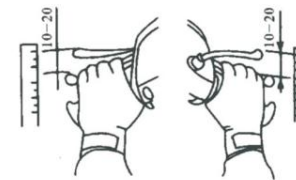

Figure 3-1
1.3 Checking the front and rear brakes: When the brake lever is pressed, from the moment you start to squeeze it until you feel resistance (i.e. the brake starts to act), the lever travel should be between 1 mm and 20 mm (maximum 25 mm). As shown in Figure 3-1, test whether the travel of the lever ends is within the specified range.